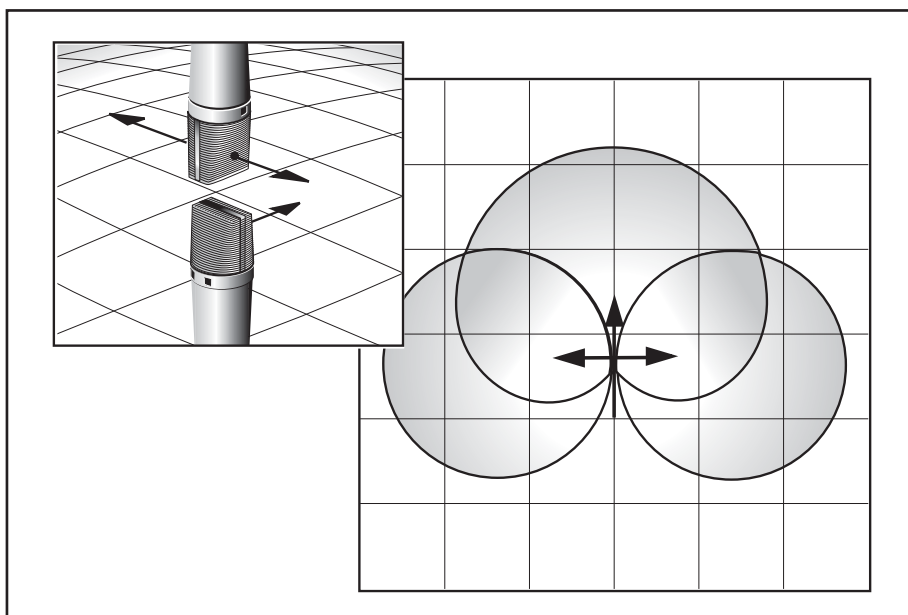

FIGURE 3.14
- **Mono stereo?** M/S stands for mid-side. This method 'sums and differences' the polar patterns of two microphones. Use M/S when you need to decide later how wide the stereo image should be (Figure 3.14). To monitor and control the depth of the stereo image, three channels are needed on the console.